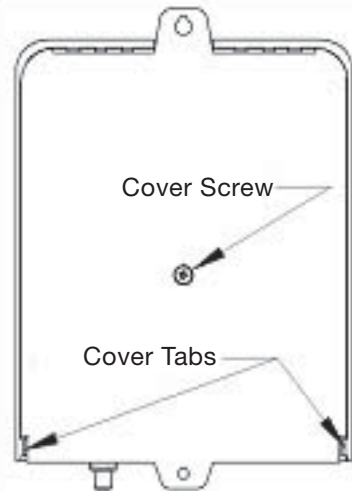

Figure 3 Cover screw and tabs
1. Remove the cover screw on the back side of the base of the EC-AGX (Figure 3).